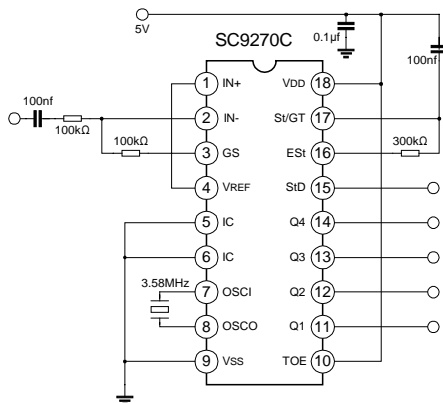

Figure 2. Single ended input cofiguration
**AC CHARACTERISTICS** (All voltage referenced to Vss otherwise noted; VDD=5.0V, VSS=0V, TA=25°C, fCLK=3.579545 MHz, using test circuit of figure 2 & 3. Typical figures are at 25°C and are for design aid only: not guaranteed and not subject to production testing)
Provision is made for connection of a feedback resistor to the op-amp output (GS) for adjustment of gain. In a single-ended configuration, the input pins are connected as shown in Fig.2 with the op-amp connected for unity gain and VREF biasing the input at 1/2VDD.